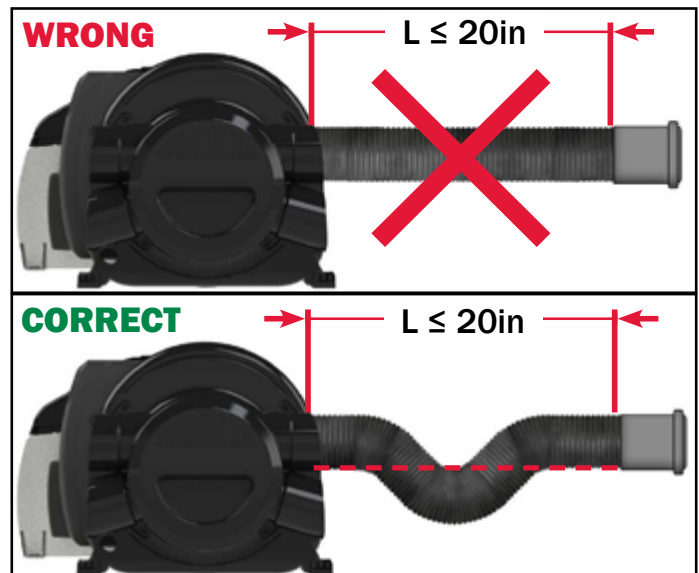

Figure 13
- If the duct length is less than 20in, form a U-shaped trap near the air outlet (Figure 13) to prevent unwanted interior heating when the system is only in hot water mode.